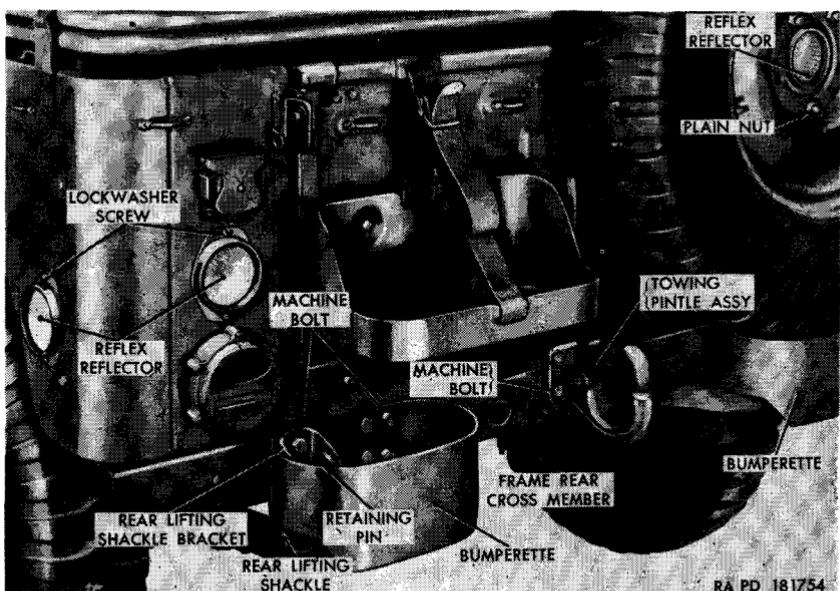
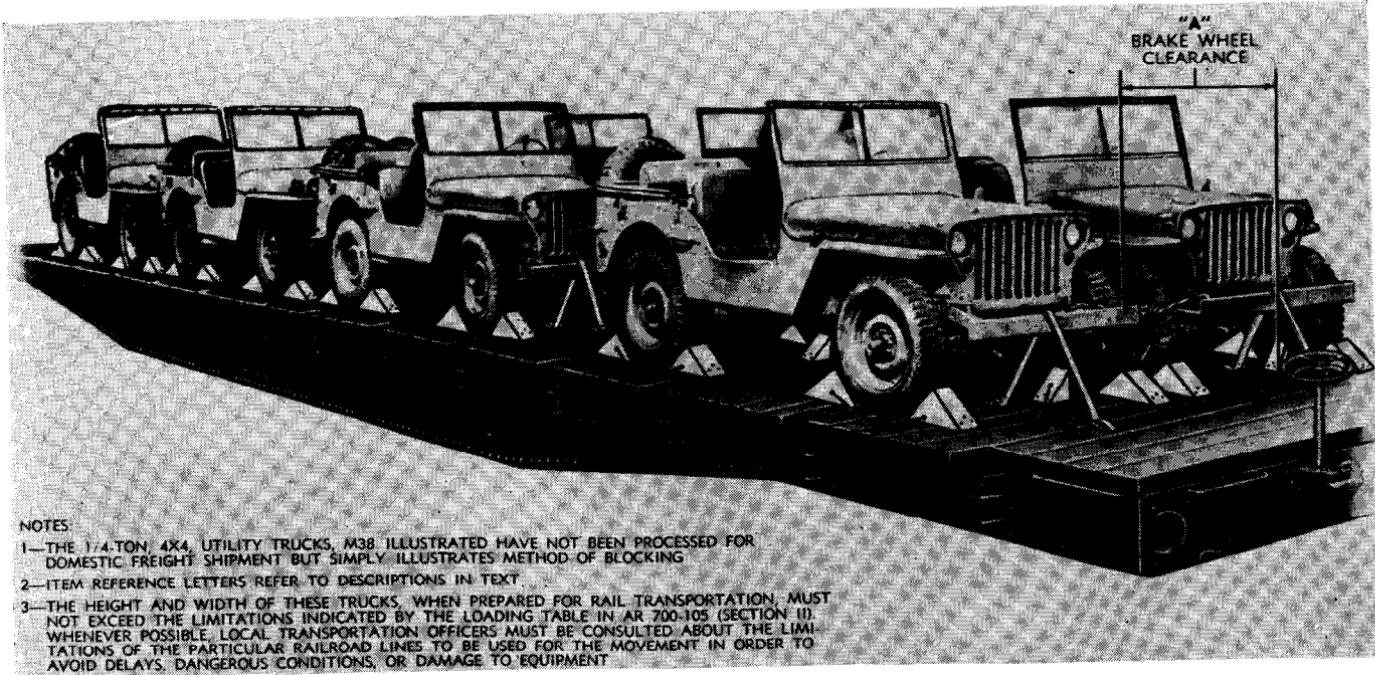
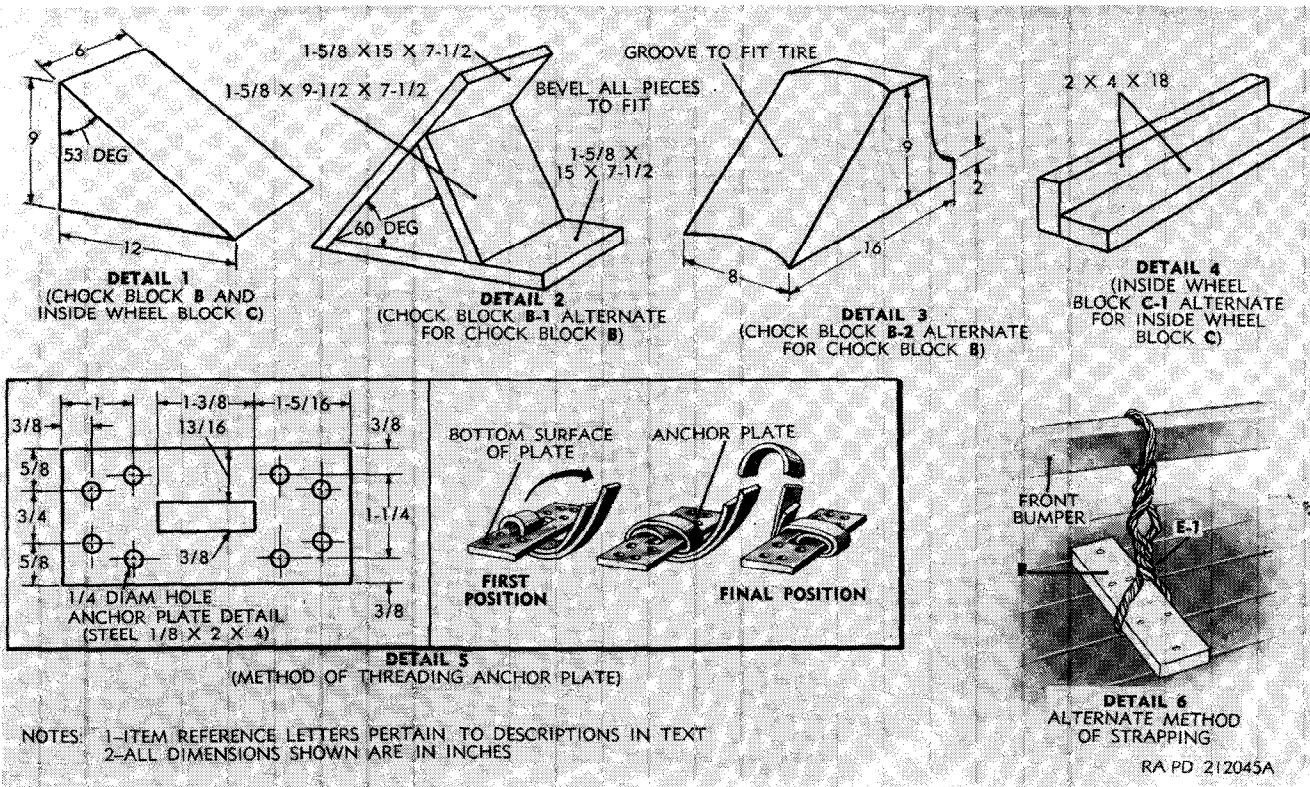

Figure 132. Bumperettes, rear lifting shackles, towing pintle assembly, and reflex reflectors.
Figure 136. Methods of blocking the 1/4-ton 4x4 utility trucks M38 on flatcars.
Figure 137. Methods of blocking the 1/4-ton 4x4 utility trucks M38 on flatcars (details)—Continued.
b. Rear Lifting Shackles with Brackets (fig. 132).
- (1) *Removal.* Pull the retaining clip out of the retaining pin. Withdraw the pin from the shackle bracket and remove
- (2) *Installation.* Position the shackle bracket inside the bumperette. Push two $\frac{1}{2}$ x $1\frac{1}{4}$ bolts through the shackle bracket, bumperette, and frame rear cross member and install two $1\frac{7}{32}$ -inch flat washers, $\frac{1}{2}$ -inch lockwashers, and $\frac{1}{2}$ -inch plain nuts. Place the shackle in the bracket, insert the retaining pin through the bracket and shackle, and install the retaining clip through the end of the pin.
c. *Towing Pintle* (fig. 132).
- (1) *Removal.* Remove the four nuts, lockwashers, and bolts securing the towing pintle to the frame rear cross member and remove the pintle.
- (2) *Installation.* Position the towing pintle on the frame rear cross member and secure in position with four $\frac{1}{2}$ x $1\frac{7}{8}$ bolts, $\frac{1}{2}$ -inch lockwashers, and $\frac{1}{2}$ -inch nuts.
a. Bumper Bar (fig. 136).
- (1) *Removal.* Remove the front lifting shackles and shackle brackets (par. 267a(1)). Remove the six plain nuts, lockwashers, and bolts securing the bumper bar to the frame side rails and remove the bumper bar.
- (2) *Installation.* Position the bumper bar at the front of the vehicle, alining the mounting holes in the bar with the mounting holes in the frame side rails. Secure the bar to the side rails with six $\frac{3}{8} \times \frac{3}{4}$ bolts, $\frac{3}{8}$ -inch lockwashers, and $\frac{3}{8}$ -inch plain nuts. Install the front lifting shackles and shackle brackets (par. 267a(2)).
b. Bumperettes (fig. 132).
- (1) *Removal.* Remove rear lifting shackle (par. 267b(1)). Remove the two plain nuts, lockwashers, and bolts securing the bumperette to the frame rear cross member and remove the bumperette.
- (2) *Installation.* Position the bumperette on the frame rear cross member and secure in position with two $\frac{1}{2}$ x $\frac{7}{8}$ bolts, $\frac{1}{2}$ -inch lockwashers, and $\frac{1}{2}$ -inch plain nuts. Install the rear lifting shackle (par. 267b(2)).
(fig. 132)
Association of American Railroads. Additional blocking may be added, as required, at the discretion of the officer in charge. Double-headed nails may be used, except in the lower piece of two piece cleats. All reference letters in *b* through *e* below refer to details and locations in figures 136 and 137. The number of vehicles to be loaded will depend upon the length of flatcar.
Note. Three methods of blocking are given herein; the method to be used will depend on dimensions of flatcars and availability of required blocking materials. The instructions herein are for vehicles, double-loaded, as shown in figure 136. Vehicles may be single-loaded, double-deck loaded, or incline-loaded (with the front wheels of the second vehicle positioned in the rear body of the first vehicle and the front wheels of the third vehicle positioned in the rear body of the second vehicle, etc.).
Note. Alternate type B-1 or B-2 chock blocks may be constructed as shown in details 2 and 3, figure 131, and located against tires as shown in details 1 and 2, figure 136. Single-loaded vehicles require chock blocks at the front and rear of all four wheels.
(2) *Inside wheel blocks "C"* (*6 x 9 x 12, four rqr per truck constructed as shown in detail 1, fig. 137*). Locate the 6 x 9 surface of block flush against the inside of each wheel, as shown in figure 136. Nail heel of each block to car floor with four forty-penny nails and toenail each side to floor with one forty-penny nail.
Note. Alternate type inside wheel blocks C-1, may be constructed as shown in detail 4, figure 137, and located against tires as shown in detail 2, figure 136. When inside wheel blocks C-1 are used, cushioning material "D" (wtrprf paper or burlap) will be placed between blocks C-1 and inside of tire. The material should extend 2 inches beyond block on car floor and 2 inches above block against side of tire.
- (3) *Vehicle strapping "E" (1 in. No. 14 BW ga, hot-rolled steel, lgh to suit, two rqr per truck).* Locate strapping "E" over front bumper of vehicle and through rear pulling hook of vehicle, as shown in figure 136. Pass strapping through two anchor plates (detail 5, fig. 137) and nail anchor plates to car floor with eight twentypenny nails. Substitute, if desired, four strands of No. 8 gage, black annealed wire, E-1, twist-tie to form cables. Pass the cable over the bumper or through the pulling hook underneath and around ramdom 2 x 4 cleat "F" (detail 6, fig. 137). Nail cleat lengthwise to car floor and twist-tighten cables to remove all slack.
- (4) *Vehicle ties "G" (6 strands, 3 wrappings, No. 8 ga, black and wire, lgh to suit).* Pass cables around frame (bumpers, hooks, brackets, etc.) at front and rear of every two side-by-side vehicles as shown in figure 136. Twist-tighten cables to remove all slack.
- (1) *Wheel cleats "N" (4 in. wd, 6 in. high, 8 in. longer than width of car, four rqr per truck).* Locate a cleat "N" across the front and rear of front and rear wheels as shown in detail 3, figure 136, and toenail each to car floor with four thirtypenny nails.
- (2) *Wheel supports "Q" (2 x 4, 2 in. longer than distance between outside faces of cleats "N", four rqr per truck).* Locate the two-inch side of support "Q" against each side of car floor. Secure each end to cleats "N" with $\frac{1}{2}$ -inch diameter bolt, nut, and washer, as shown in detail 3, figure 136.
- (3) *Wheel cleats "J" (2 x 4, 2 in. longer than distance between outside faces of cleats "N", four rqr per truck).* Locate cleat "J" across top cleats "N" with sides of cleats "J" flush against inside of tires, as shown in detail 3, figure 136. Nail end of each cleat "J" to cleats "N" with three twentypenny nails.
- (4) *Support cleats "P" (2 x 4 x 18, eight rqr per truck).* Locate four cleats "P" equidistant across car floor, with ends flush against cleats "N", as shown in detail 3, figure 136. Nail cleat to car floor with four thirtypenny nails. Locate one cleat on top of each lower cleat and nail with four thirtypenny nails.
and nail to car floor with ten thirtypenny nails; locate a cleat on each lower cleat and nail with ten thirtypenny nails as shown in detail 4, figure 136.
- (2) *Wheel side cleats "J" (2 x 4, lgh 4 in. longer than distance between outer face of cleats "H," four rqr per vehicle).* Locate a cleat "J" against inside or outside of wheels as shown in detail 4, figure 136, and nail each end to cleats "H" with three twentypenny nails.
- (3) *Intermediate cleats "K" (2 x 4, eight rqr per vehicle).* Locate a cleat "K" on top of cleats "H," with end flush against cleat "J," and nail to cleats "H" with two twentypenny nails as shown in detail 4, figure 136.
- (4) *Upper cleat "L" (2 x 4, lgh to equal cleats "H", four rqr per truck).* Locate a cleat "L" across cleats "J" and nail to cleats "J" and "K" with three twentypenny nails at each end as shown in detail 4, figure 136.
- (5) *End cleats "M" (2 x 4 x 18, total of eight rqr).* Locate a cleat "M" on car floor at each end of load, with end flush against cleat "H," near each side of car, and secure with four thirtypenny nails. Locate one cleat "M" on top of each lower cleat and secure with four thirtypenny nails as shown in detail 4, figure 136.